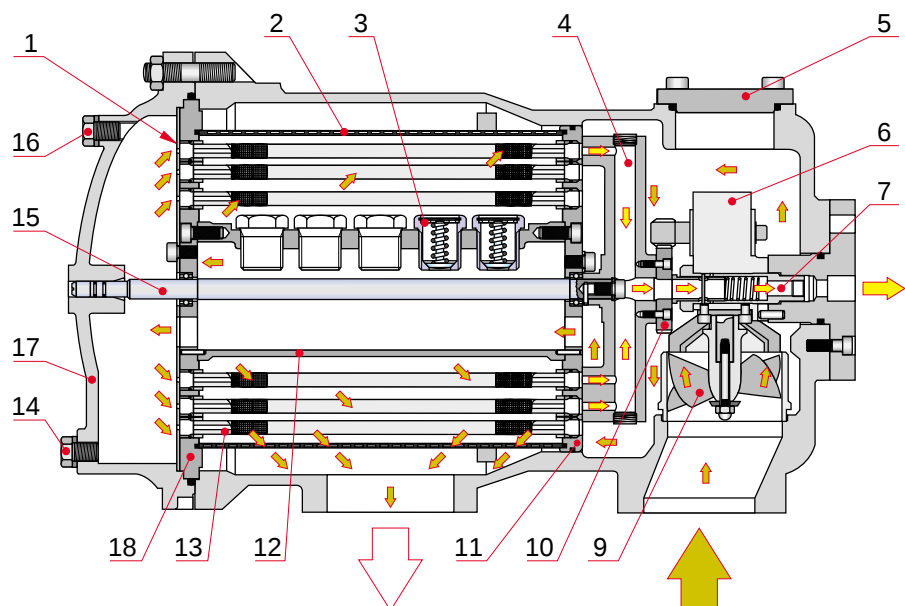

Fig 18-6
The arrows in Fig 18-6 show the flow through the filter. At first, the oil flows through the inlet flange and turbine (9) to the right end of the filter candles (13); a partial stream of about 50 % is passed through the central connection tube (12) to the left end of the filter candles. This means that the oil flows through the filter candles at both ends from inside outwards and most of the dirt particles are retained in the inside of the candles. The oil filtered in this way now passes through the protective filter (2) to the filter outlet.
3 Check the ease of movement of the worm gear unit (6), the turbine (9) including gear (10) with flushing arm (4) see Fig 18-6.
2 Remove the cover (17) by opening the nuts, see Fig 18-6.